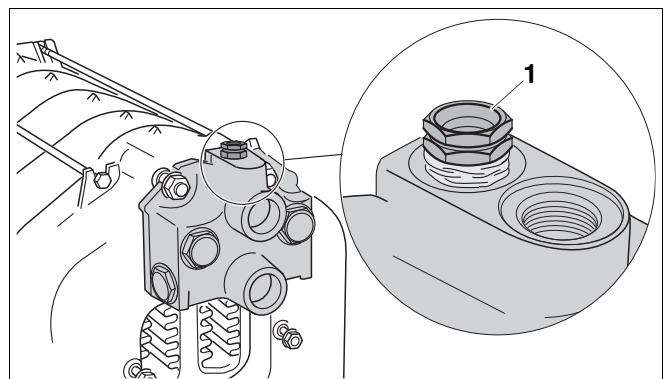

Fig. 22 Sealing the sensor well
- Close the flow and return connections (fit the air vent valve to the connecting block Rp $\frac{3}{4}$ (→ Fig. 22).